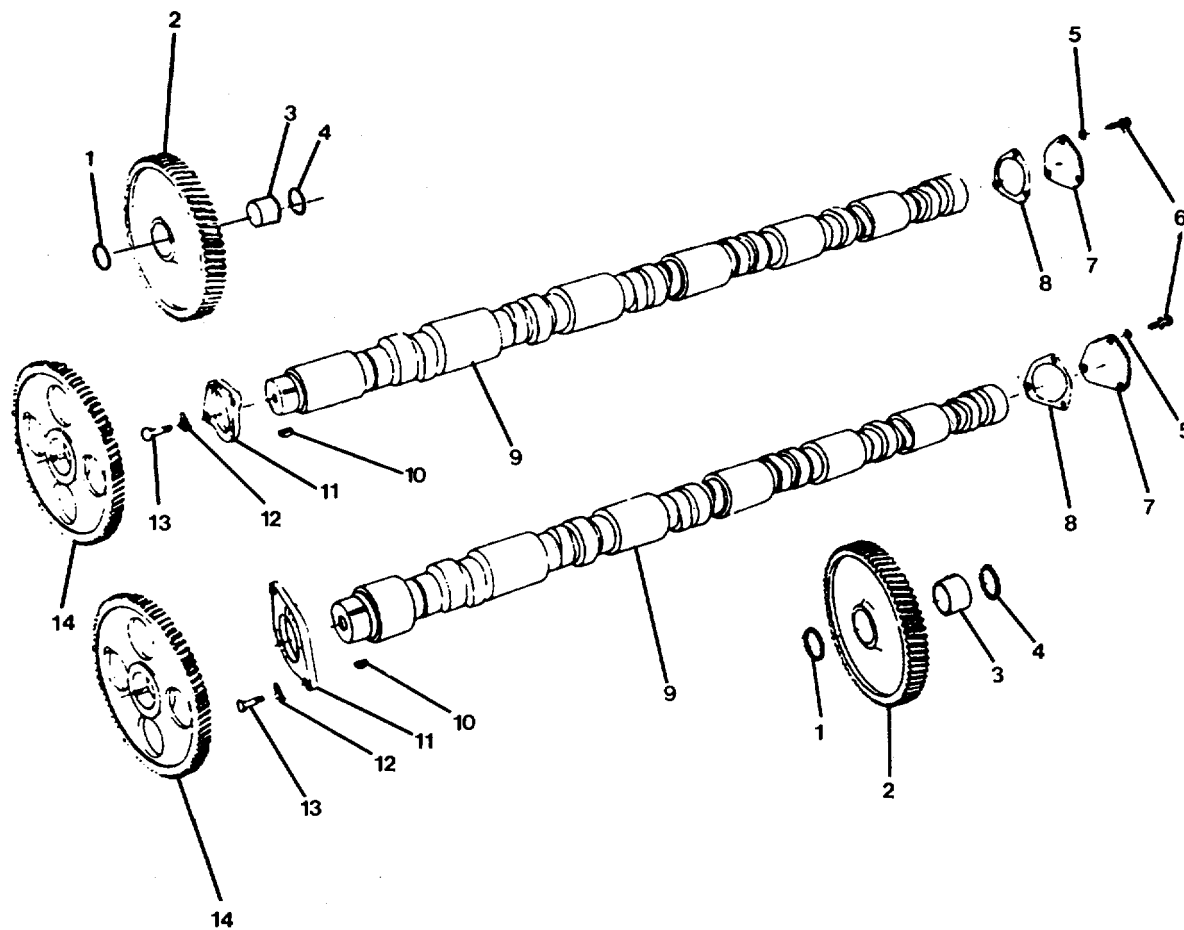
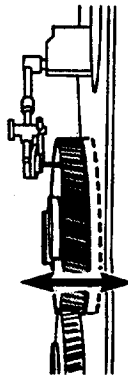

FIGURE 3-17. Camshaft Gear Group.
FIGURE 3-18. Camshaft End Clearance Measurement.
a. Remove rear access cover (7, FIG. 3-17).
- (1) Remove three hexagon head capscrews (6) and lockwashers (5) from each rear access cover (7).
- (2) Remove access covers (7) and gaskets (8). Discard gaskets.
b. Remove idler gears (2).
- (1) Use a dial indicator to measure camshaft end clearance (FIG. 3-18).
- (2) Use a hammer and a drift to bend the lockplates (12, FIG. 3-17) from the heads of the hexagon head capscrews (13).
- (3) Remove hexagon head capscrews (13) and lockplates (12) from shaft retaining plate (11).
- a. Replace camshaft (9, FIG. 3-17).
- (3) Install camshaft (9, FIG. 3-17) in the correct bank of the cylinder block. Using the pilot as a guide, rotate the camshaft clockwise and counterclockwise to assist in installation.
- (4) If necessary, rotate camshaft (9) until holes in gear (14) allow access to holes in retaining plate.
- (5) Install lockplates (12) and hexagon head capscrews (13). Tighten capscrews (13) to 35 ft-lb (45 N·m). Bend lockplates (12).
- (6) Remove camshaft pilot from the rear of camshaft (9). Install gasket (8) and camshaft rear cover (7). Install lockwashers (5) and hexagon head capscrews (6). Tighten to 30 ft-lb (40 N·m).
- (7) Repeat steps (1) through (6) for remaining camshaft if required.
- (8) Attach a dial indicator gauge to the housing and check the camshaft end clearance (FIG. 3-18). Verify end clearance is between 0.006 to 0.013 inch (0.15 to 0.33 mm) on both camshafts. If the end clearance is not within the limits, check for foreign material or a piece of gasket material between the shaft retaining plate (11, FIG. 3-17) and the block. If measurement is still out of tolerance, evacuate to intermediate general support and check shaft retaining plate thickness.
- (9) Replace front and rear camshaft covers using new gaskets. Tighten capscrews alternately and evenly to 30 ft lb (40 N·m).
- b. Replace idler gears (2, FIG. 3-17).
- (2) Lubricate bushings (3, FIG. 3-17) and idler shafts with Lubriplate.
- (3) Install gears (2). Align the timing marks.